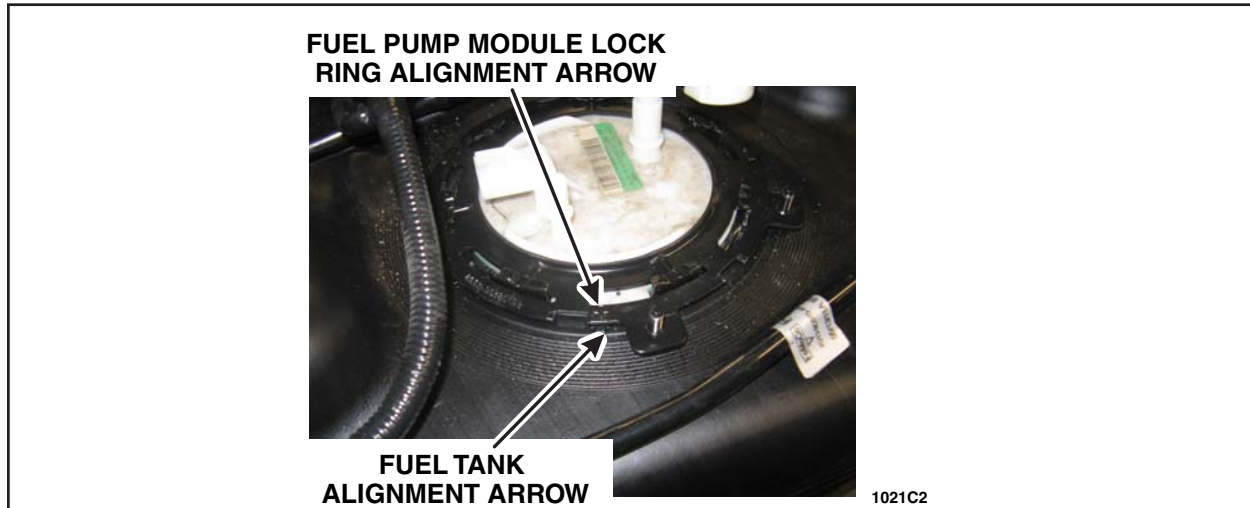

FIGURE 15
- Ensure that the fuel pump module lock ring aligns with the fuel tank arrow when fully installed. See Figure 15.